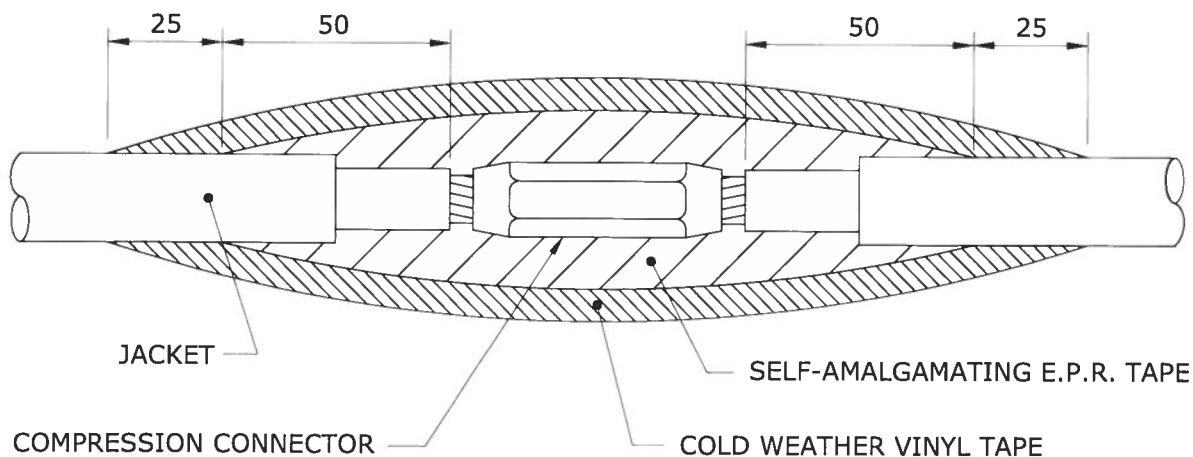

FIGURE 2
1. APPLY 3 LAYERS OF SELF-AMALGAMATING ETHYLENE PROPYLENE RUBBER (E.P.R.) TAPE (S.C. 78 55 23) AS PER FIGURE 2.
2. APPLY 2 LAYERS OF COLD WEATHER VINYL TAPE (S.C. 78 55 98) AS PER FIGURE 2.